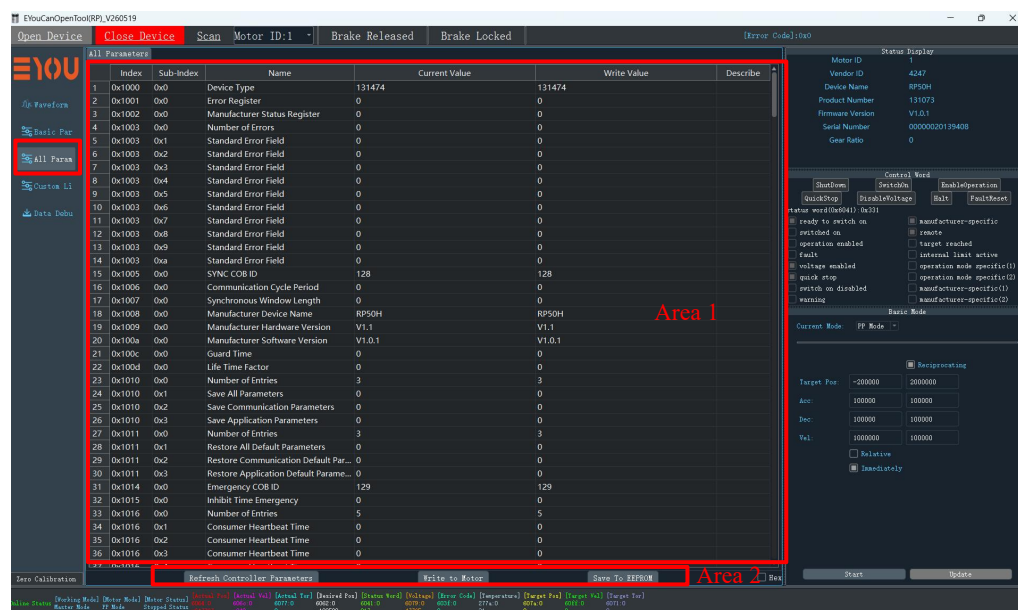

Figure 3-4: Full Parameter Interface Diagram
2) The <Basic Parameters> interface is shown in Figure 3-4: